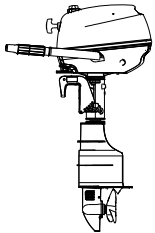
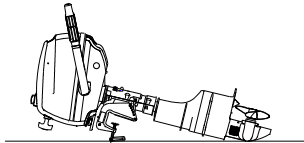
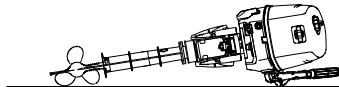
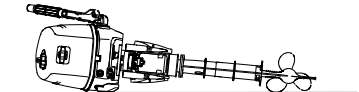

Figure 1
Figure 2
Figure 3
Figure 4
The outboard motor should be upright as shown in the following figure 1 when be in transit. If the engine must be laid down, please be sure to put it as shown in the following figure 2 or figure 3 when be in transit.
- **Place a towel or something similar under the outboard motor to protect it from damage when as shown in the figure 2, figure 3 or figure 4 above.**